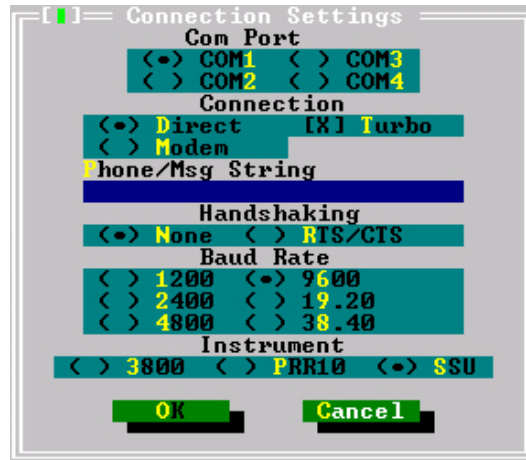

Figure H-2. Connection Settings Dialog Box
6. Select the File menu (or press Alt+F), and select the Setup (or press the P key) option. The Connection Settings dialog box appears, as shown in Figure H-2.